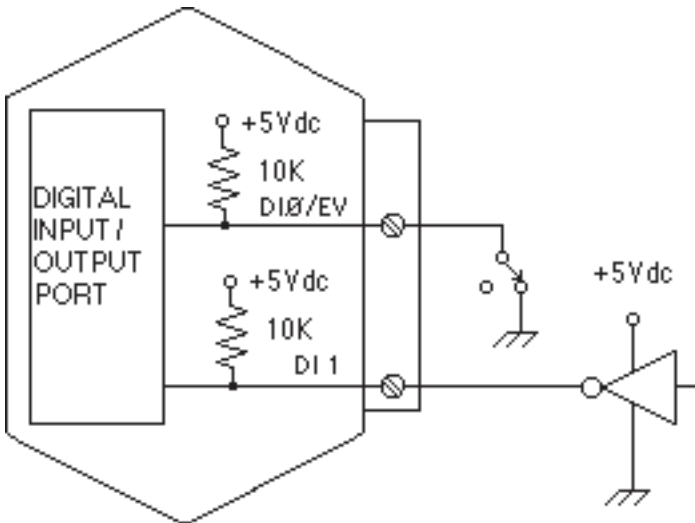

Figure 6.3 Digital Inputs
Digital inputs are used to sense switch closures and the state of digital signals. The inputs are protected to voltages up to $\pm 30\text{V}$ and are normally pulled up to the logic “1” condition (see Figure 6.3). Digital inputs can be read by the Digital Input (DI) command. Voltage inputs less than 1 V are read back as ‘0’. Signals greater than 3.5 V are read as ‘1’. No other commands have any affect on the inputs.